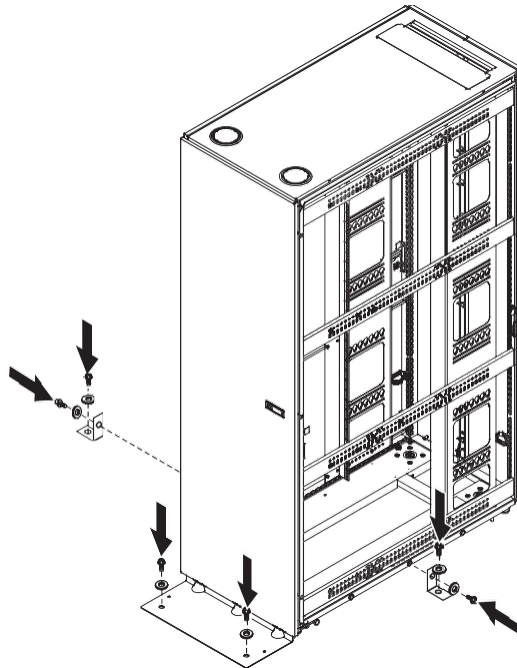

Figure 5. Installing the side stabilizer brackets and bolting the rack to the floor surface
- b. Attach the side stabilizer brackets to the center cage nut on each side of the rack with the hex bolts and washers (see Figure 5). The stabilizer brackets, bolts, and washers come in the hardware kit.
5. Bolt the rack to the floor surface through the holes in the front and side stabilizer brackets (see Figure 5) and reinstall the side covers.